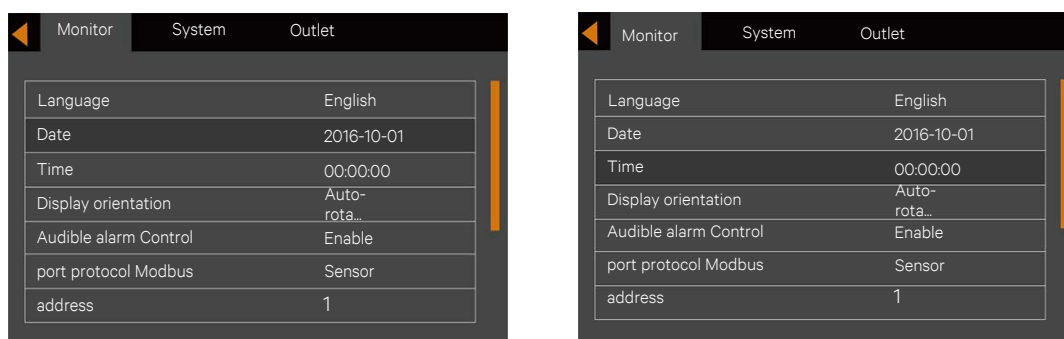

Figure 5-16 Selection of date and time
3. Press the  key, and press the  or  key to highlight the date and time, see Figure 5-16.